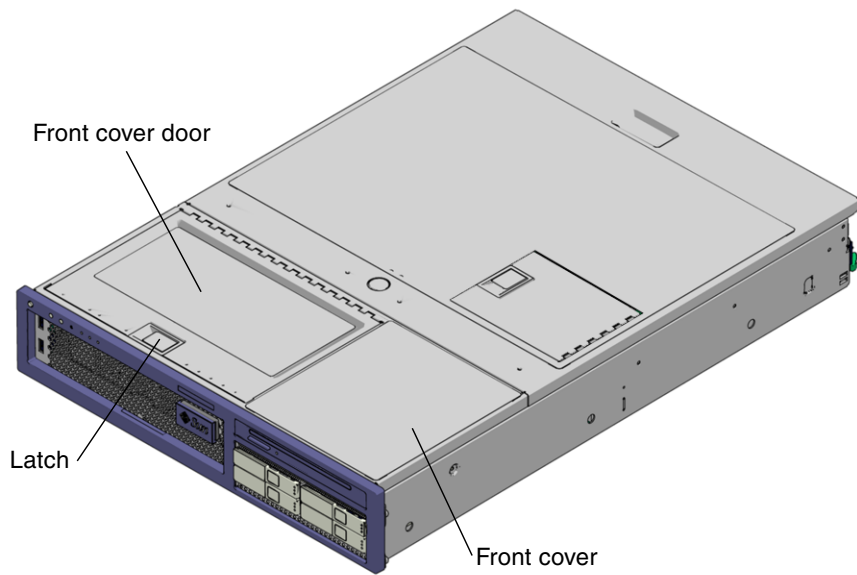

FIGURE 3-6 Front Cover, Front Cover Door, and Latch – Sun Fire V245
1. **Open front cover door** (FIGURE 3-6).
2. Open the front cover door (FIGURE 3-6).
4. Remove the front cover (FIGURE 3-6).